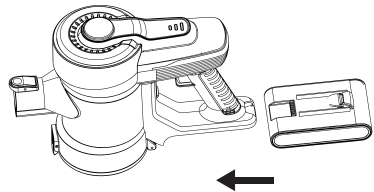

Fig.2
- To reposition the battery under the Main Unit, insert the battery into the grooves until you hear a click. (Fig.2)
Insert the batteries unit into the bottom of the machine and when it locked into the machine, you will hear the sound of connection. Pay attention to the direction. (Fig.2)